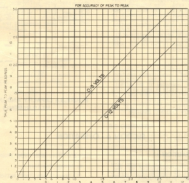

FIGURE 4-1 PEAK-TO-PEAK CHART
(1) Read the numerical value of the capacity directly from the scale. Find the associated impedance on the graph given in Figure 4.1. This value is XL in the formula below.
(2) Note the RANGE SELECTOR, whether it is on X1 - X10 - X100, etc., etc. This value is in the formula below.
(3) Determine the reactance of the inductance by means of an ohmmeter. This value is RL in the same formula.
(4) Knowing RL and whether the selector switch was on X1 - X10 - X100 etc., also knowing XL determines the inductive reactance XL from the formula below.
Therefore, the error due to the resistance is greater than 2%. Referring to the graph in Figure 4.1, we find that the impedance for a capacity reading of 8.8 MFD is 300 ohms. Substituting in the formula: